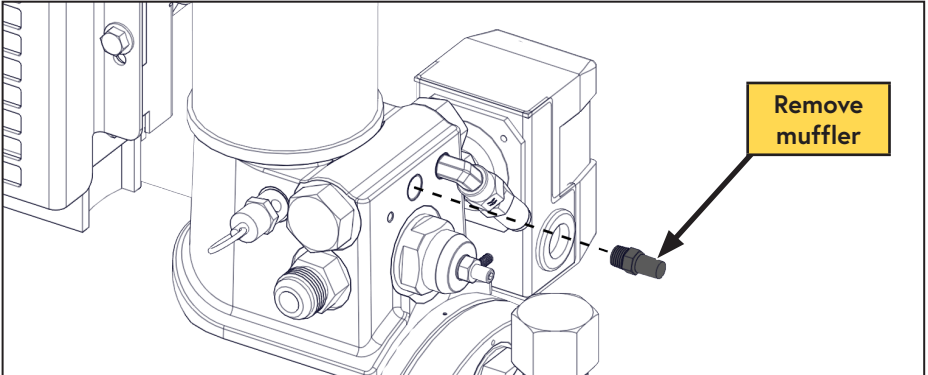

Figure 24 — Remove blowdown muffler
- Remove the blowdown muffler from the side of the WHASP Tank (below the coalescing filter) (Figure 24).